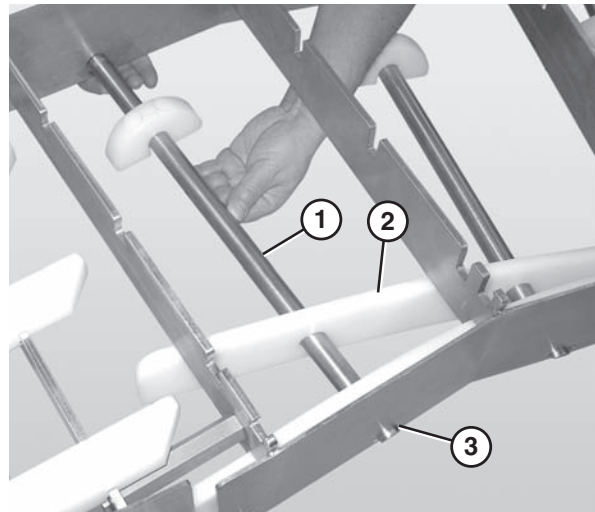

Figure 38
3. Slide the long end of the curve return shaft (Figure 38, item 1) through the center hole in the return bottom wear strip (Figure 38, item 2).
5. Push up on the return shaft and slide the notched end of the shaft through the small slot on the opposite side of the frame (Figure 38, item 3).